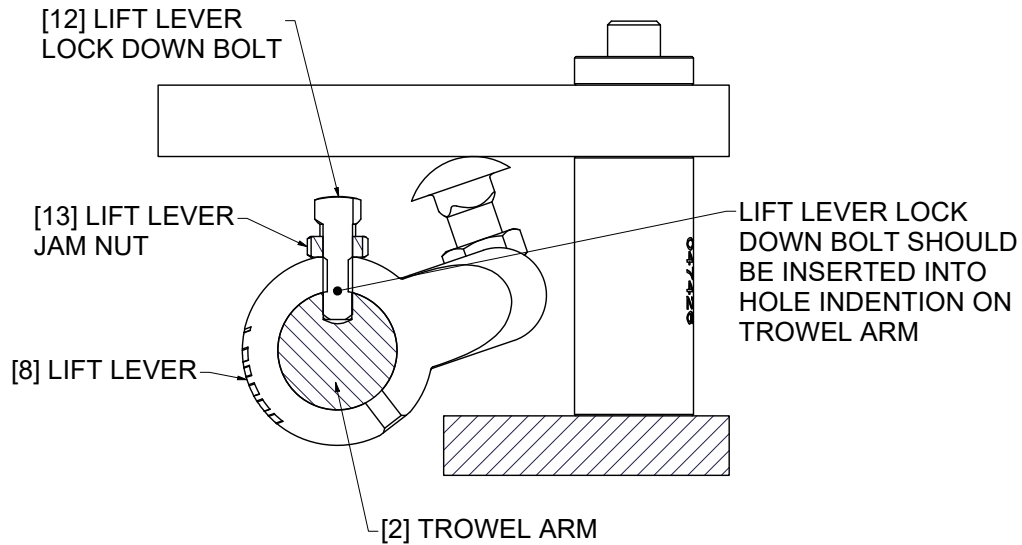

Figure 1.3-3
Step 6: Before making adjustments, verify that lift lever [8] is still in factory lock down position. Refer to Figure 1.3-3 for correct orientation of lift lever.